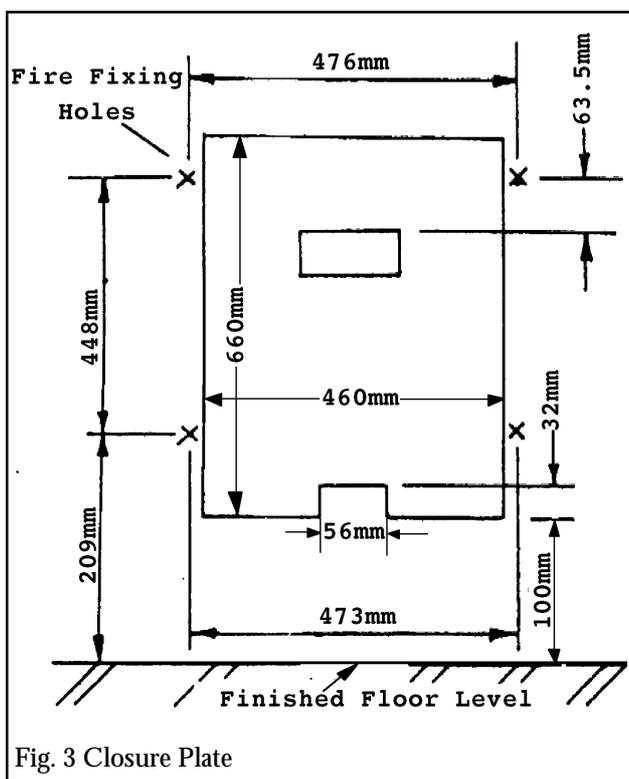

Fig. 3 Closure Plate
The closure plate (Fig.3) must be fitted and sealed to the hearth and fireplace surround using a suitable heat resistant material.
4.2.1 Using the closure plate as a template, hold the plate over the fireplace opening and mark the positions of the four wall fixing holes (see Fig.3)